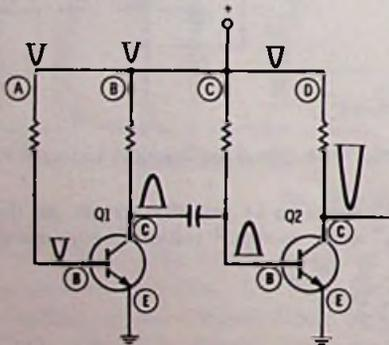

Fig. 14-18. Circuit for Question 10.
10. Fig. 14-18 is a two-stage audio amplifier showing why this circuit may oscillate on its own, if the supply line does not have sufficient filtering in it to remove all the signal. Note that by normal signal inversion in a common-emitter amplifier, a negative-going voltage to the base of Q1 becomes a larger positive-going voltage on the collector of Q1. This voltage is fed to the base of Q2 and at the collector of Q2 (inverted again) it is a large negative-going pulse. Without good filtering on the + supply line, some of this large negative-going voltage might be fed back on this line. It does nothing to the circuit except provide a bit of degenerative feedback for the first transistor, since the feedback from collector of Q2 is opposite in phase to the signal at the collector of Q1. But if it is fed back to the base of Q1, it is in-phase, reinforcing the signal already there, and the circuit may start to oscillate. The rate of oscillation may be slow or rapid, depending upon many factors in the circuit, such as how poor the supply-line filtering is, etc. One electrolytic on the supply line may be all that is necessary to eliminate this trouble; but, to be sure, the designer may put in a resistor in series with the supply line and then add a filter capacitor to ground. This is called a decoupling filter circuit. Where in Fig. 14-18 would you feel that a decoupling filter should be installed?
- A. Between (A) and (B).
- B. Between (B) and (C).
- C. Between (C) and (D).